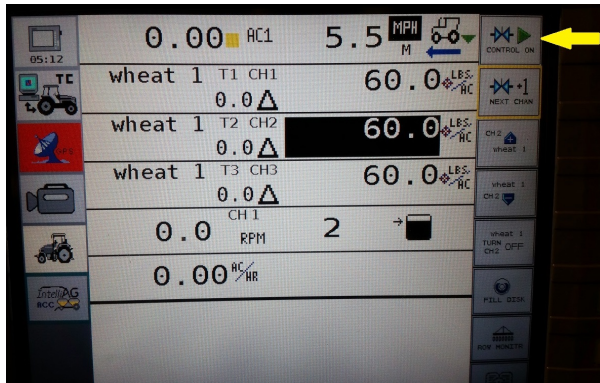

Figure 36
Step 10. Select **Control ON** (Figure 36)